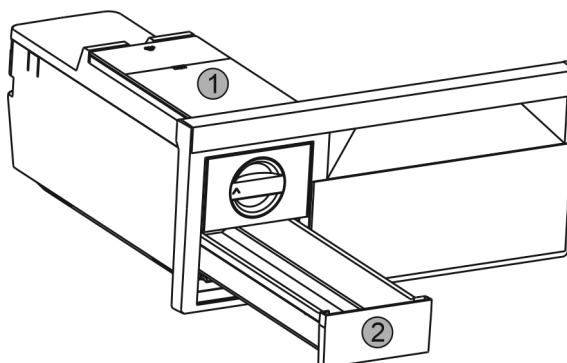

Fig. 45
- ▶ Take out the water tank Fig. 45 (1) and ice cube drawer Fig. 45 (2).